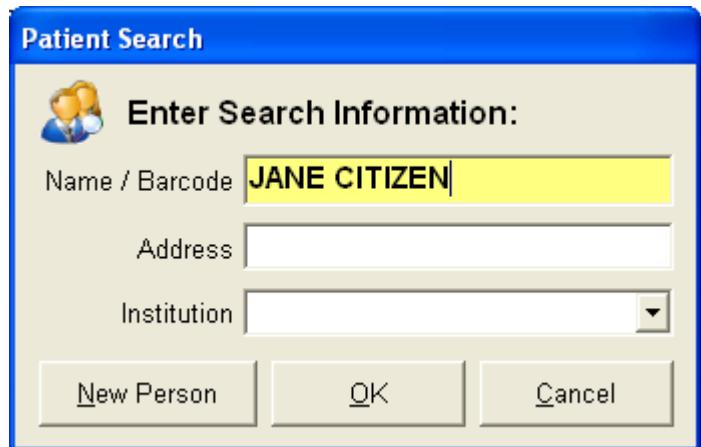

Figure 316
2. A Patient Search screen will appear, Key in the family members surname that you want linked to the principal account holders account. Click the 'OK' button to continue (as shown in Figure 316).